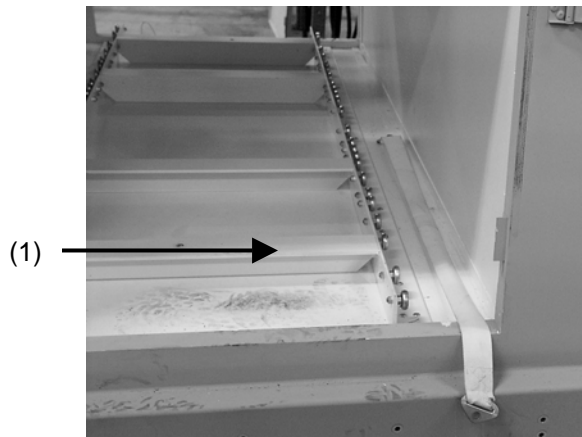

Figure 4-21. View of generator in mechanical room.
2. Remove a total of 36 rivets (WP 0037 00) from both sides of slide frame (1) (Fig. 4-21).